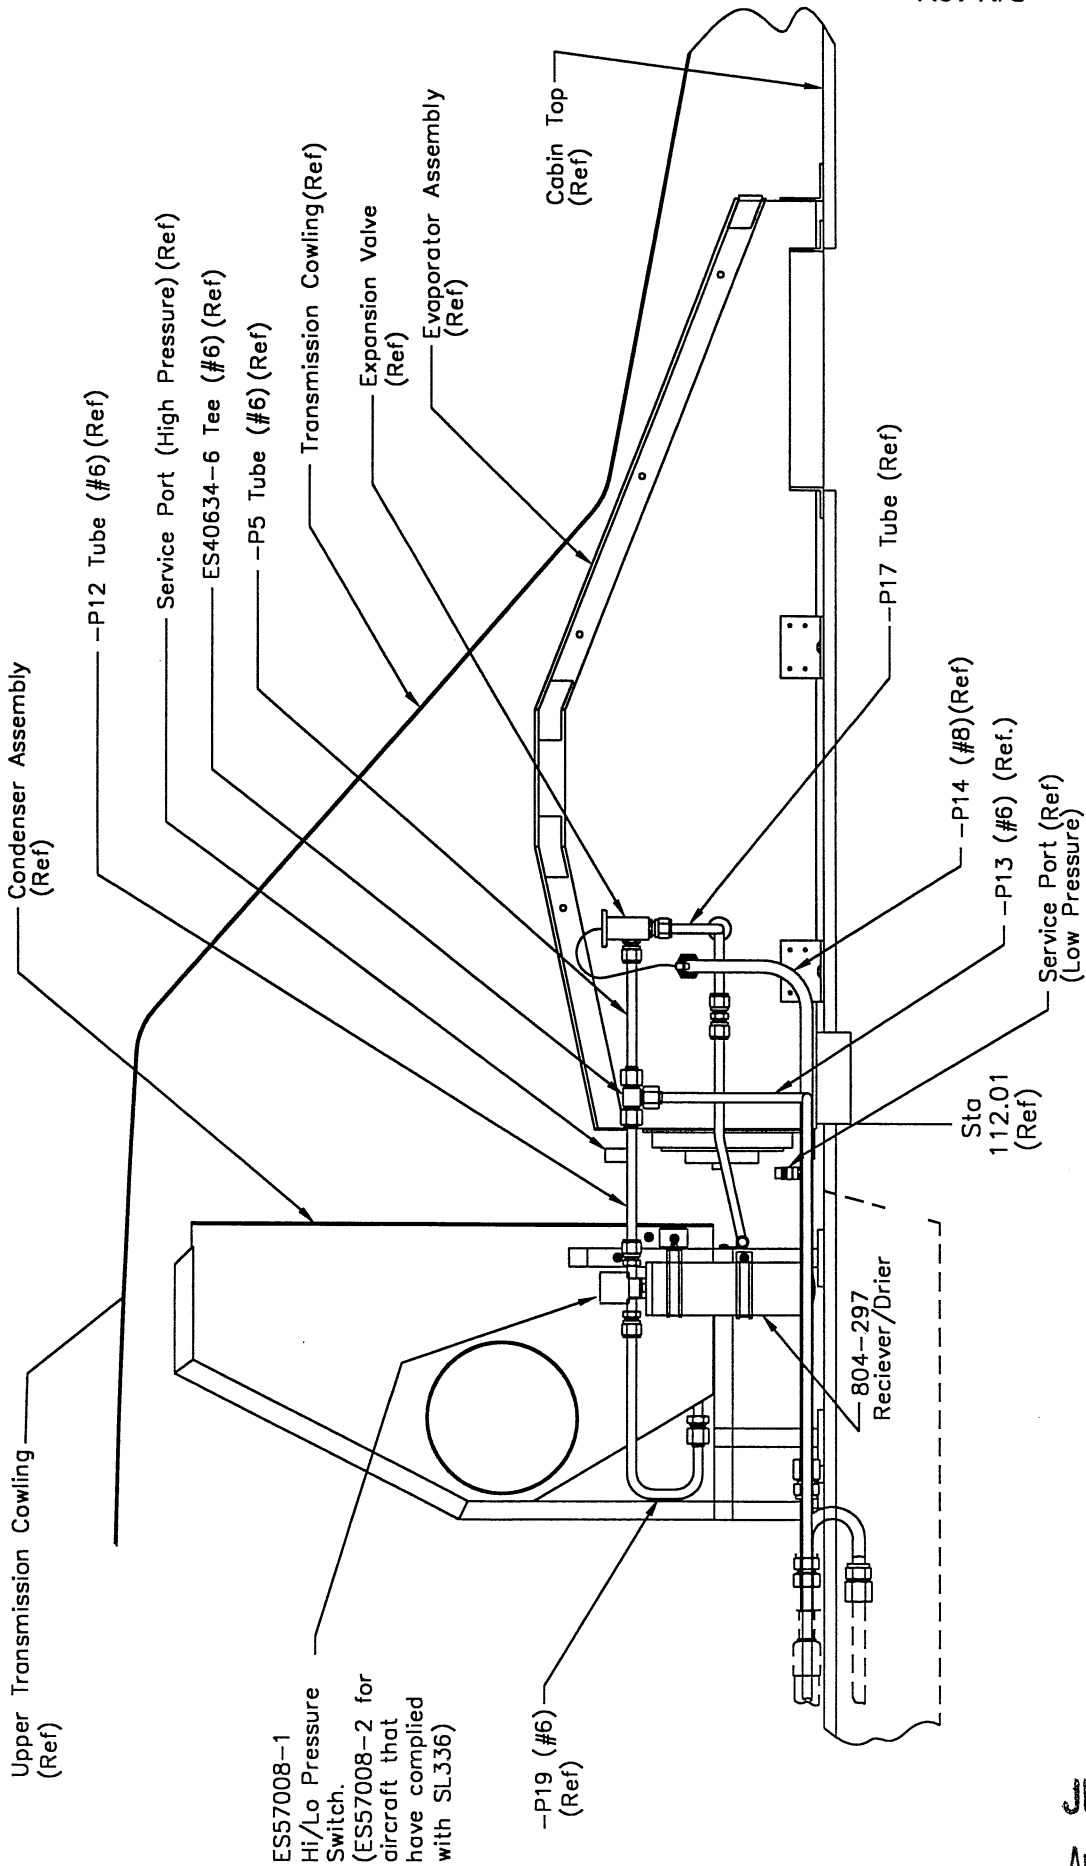

Figure 1-1, Bell 412 Air Conditioner Cabin Roof General Arrangement Drawing
1. Remove the upper transmission cowling to gain access to the air conditioner Condenser / Receiver Drier Assembly. (See figure 1-1)